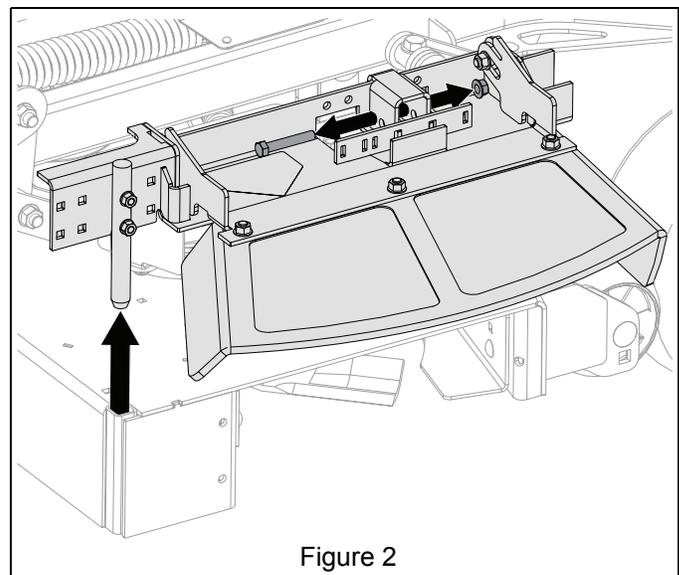

Figure 2
4. Remove hardware retaining discharge chute mounting bracket and remove chute assembly. Retain parts for operation without mulch kit. See Figure 2.